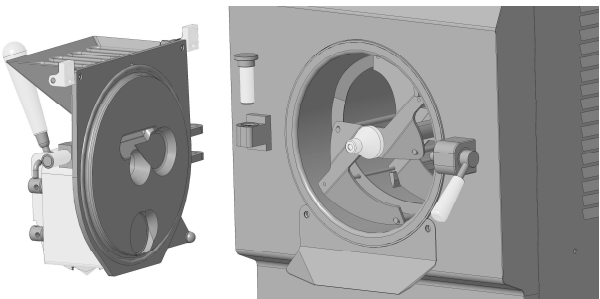

Fig.5
- Pull the hinge pin upwards and remove the door, holding it with both hands (Fig.5).